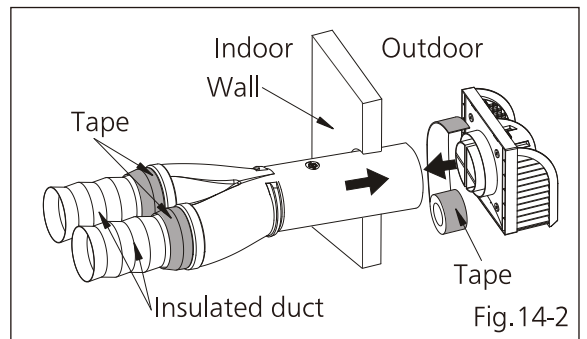

Fig. 14-2
(2) You also can use Panasonic wall cap (FV-WC04VE1) which is easy to install with one wall penetration and keeps the air streams separate to minimize cross contamination. (Fig. 14-2~3)